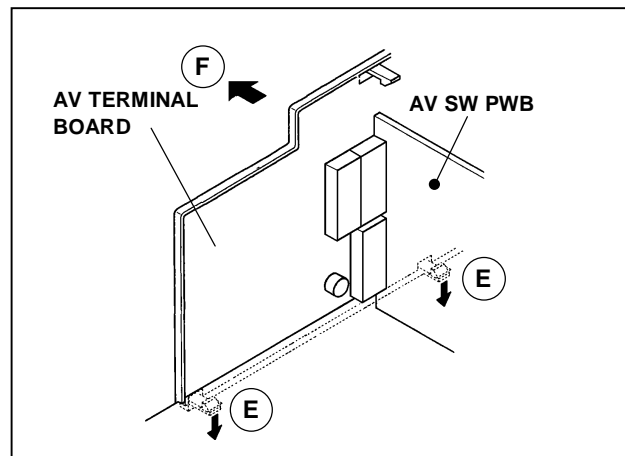

Fig. 2
2. Remove the 2 claws marked (C) under the CHASSIS as shown in Fig. 2.
3. Remove the AV TERMINAL BOARD slightly in the direction of arrow (F) as shown in Fig. 2.